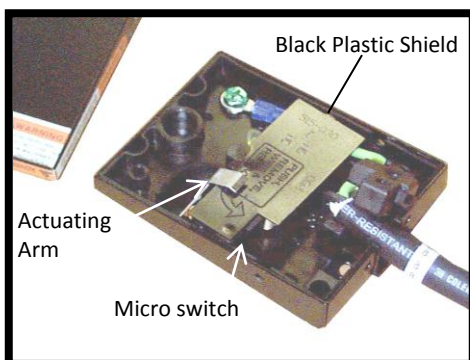

Figure 28: R/L switch bottom showing the black plastic shield
7. Lift the black plastic shield (Figure 28) slightly to disengage two pegs from matching holes in the micro switch under the shield, and remove the shield.
7. Slide the black plastic shield under the actuating arm. Engage the two pegs under the shield into the matching holes on the micro switch, and press the shield into place (Figure 28).
13. Mount the switch under the switch bracket with the two screws (Figure 28).